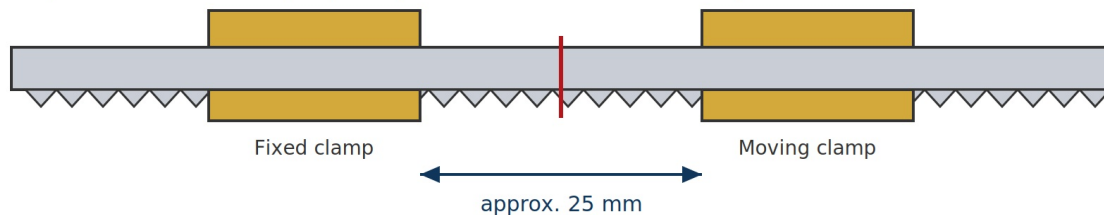

Fig. 6.2 Blade position in the jaws for welding (A) and annealing (B)
1. After welding, release the clamping device and move the two clamps apart by about **25 mm**, so that the weld joint is in the middle between the two jaws (Fig. 6.2 B). Tighten the clamps again.